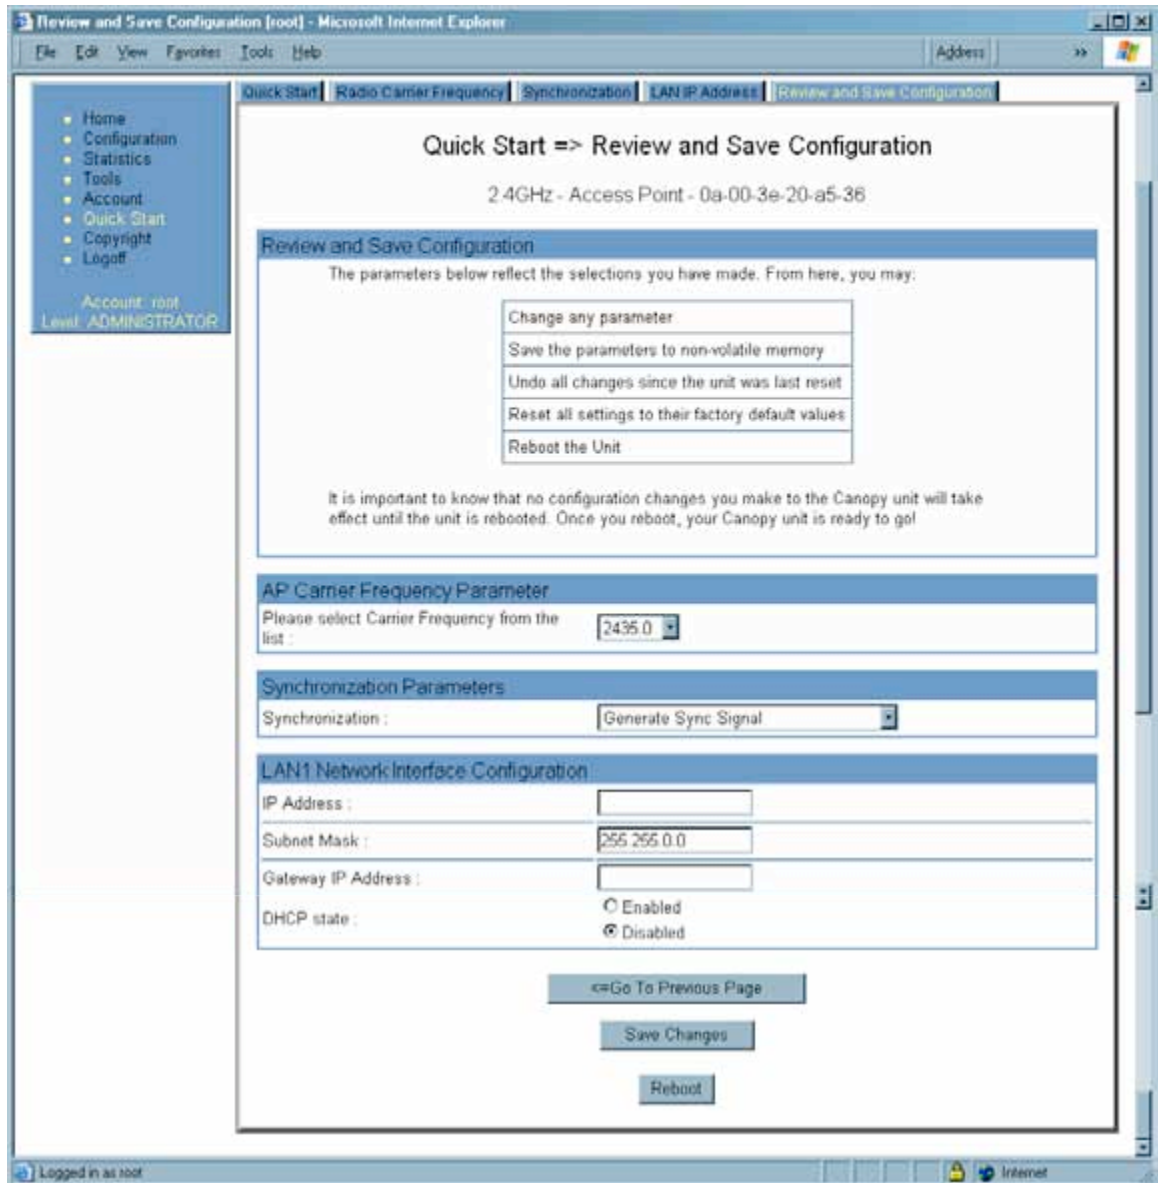

Figure 56: Review and Save Configuration tab of AP, example
**RESULT:** The AP responds by opening the Review and Save Configuration tab. An example of this tab is shown in Figure 56.